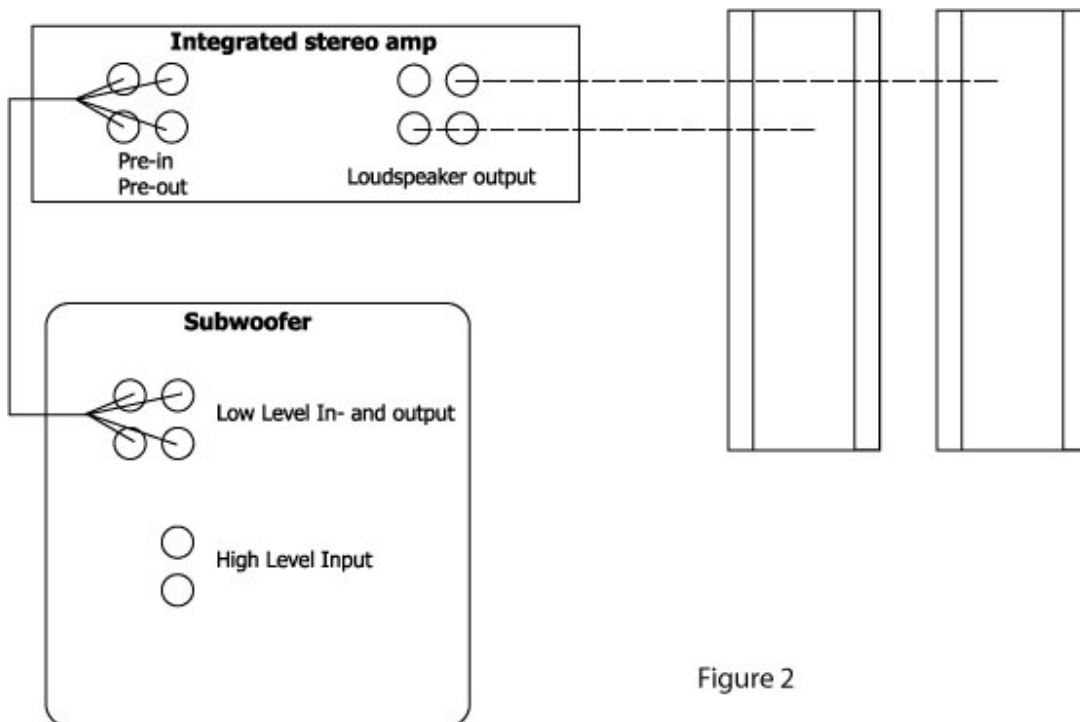

Figure 2
**(Figure 2) If you use an integrated stereo amplifier or stereo receiver WITH capability to separate the pre amp stage and the power stage:**